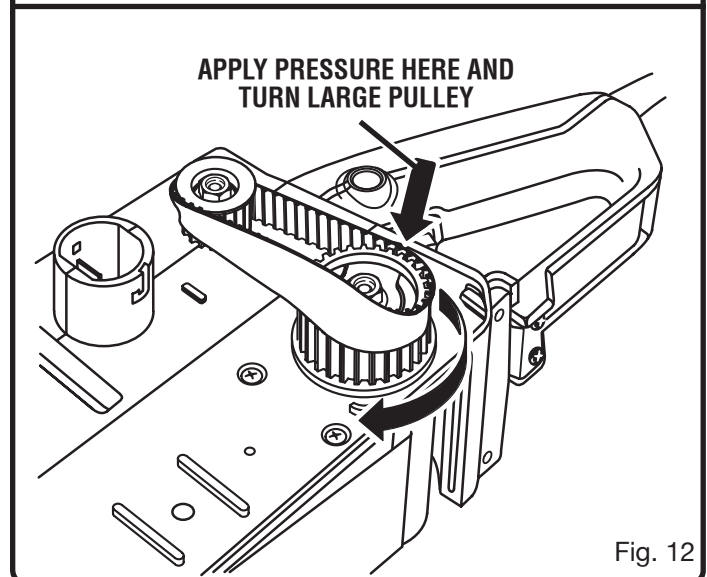

Fig. 12
- Holding the timing belt as shown in Figure 12, press belt onto the large pulley turning it as you press the belt on.